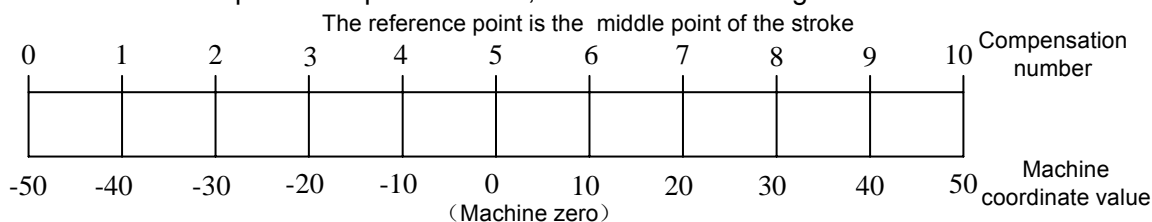

Fig. 4-7-3
C. The machine's reference point is at the machine's middle point, which occurs when an absolute encoder is allocated. The machine coordinate system's least value in the area is -100, the compensation number of -50 point is No. 0, the position relationship between the reference point and No. 0 compensation point is No. 5, which is shown in Fig. 4-7-3: